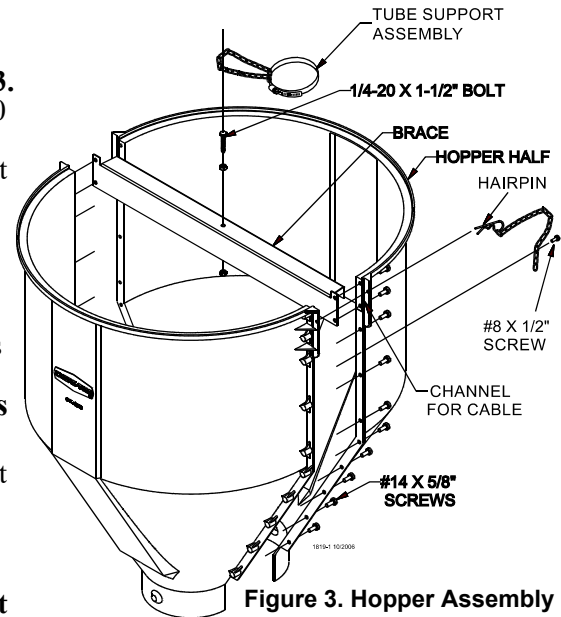

Figure 3. Hopper Assembly (Top)
1. If hopper assembly was ordered with lower hopper switch, assemble the switch to the machined hopper half. **See Figure 3.**